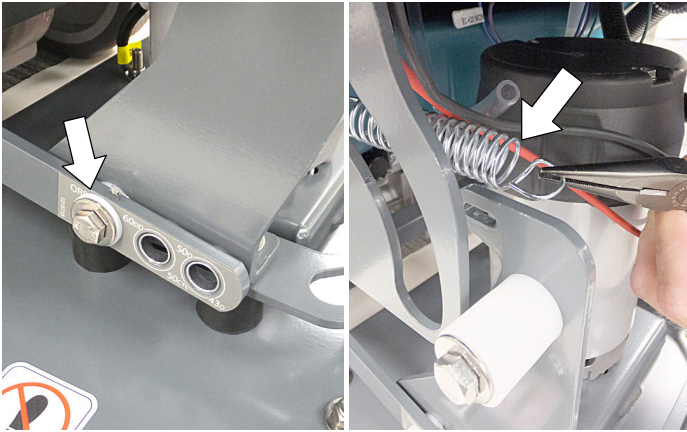

Fig. 18
- Remove the mounting hardware from the two scrub head lift arm brackets. Disconnect the torsion spring from scrub head (Figure 18).